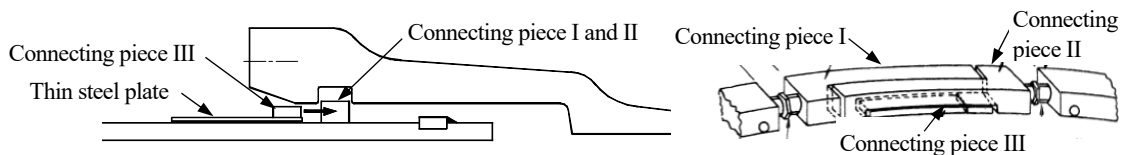

Figure 15 Set of connecting piece III
- 2) Put the connecting piece III on a thin steel plate then place it into the space between the connecting piece I and II (see Figure 15). Then remove the lock ring fastener.